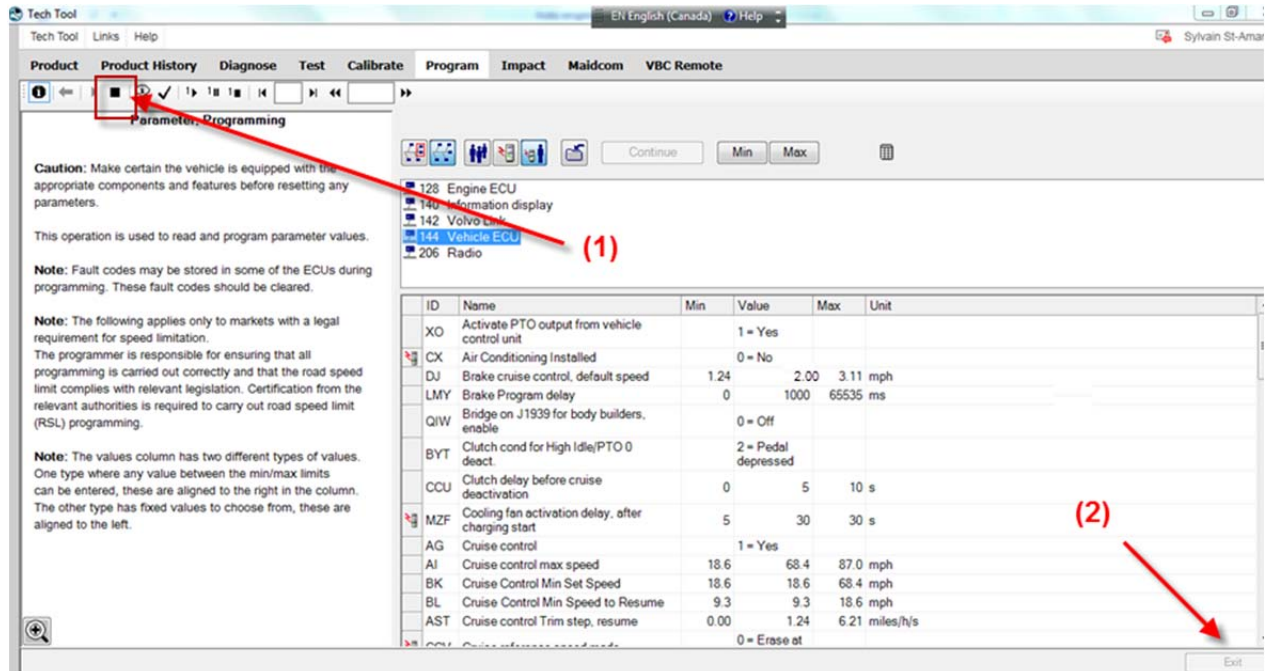

FIGURE 36
8. Click  (stop) (arrow 1) and then EXIT (arrow 2) (FIGURE 36).